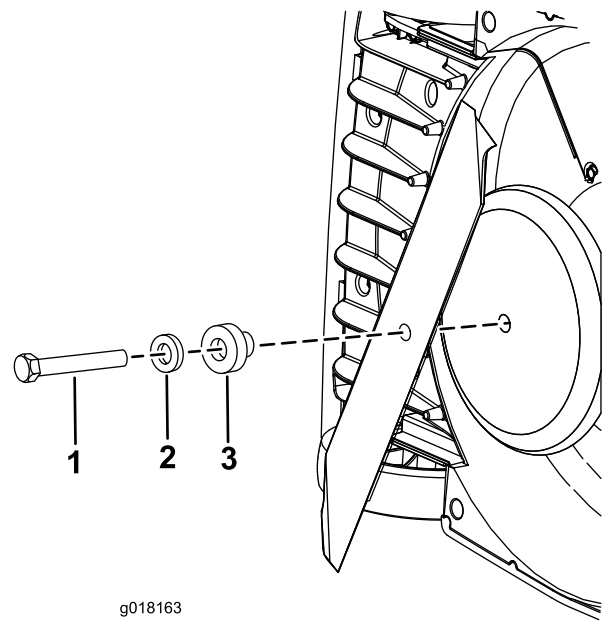

Figure 24
5. Remove the bolt, washer, and spacer, then remove the blade (Figure 24).
7. Secure the new blade in place with the bolt, washer, and spacer removed previously (Figure 24).